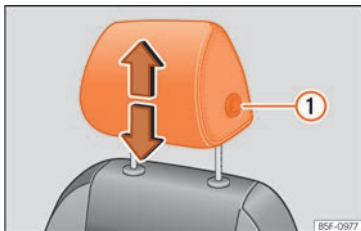
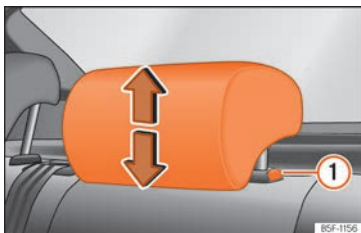

Fig. 119 Front seat: headrest adjustment.
Fig. 120 Rear headrest: headrest adjustment.
- Grab the sides of the headrests with both hands and push upwards to the desired position. To lower it, repeat the same action, pressing the ① »» Fig. 119 »» Fig. 120 button on the side.
- Press the side button »» Fig. 119 ① and remove the headrest.